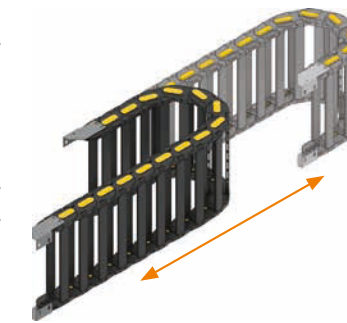

Fig. 2
- Suspended applications where the cable chain is not supported from the bottom, for example in machine tools. In this case at least the first three links near both the mobile and the fixed point should be supported from the bottom (Fig. 2), depending on factors like travel distance, additional load, unsupported length. Note: this configuration can place excessive stress on the cable chain